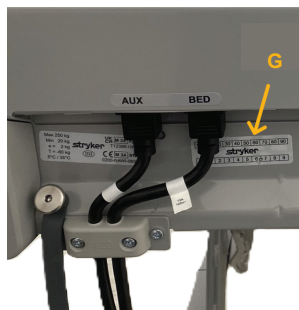

Figure 34 – Calibration counter label
4. Remove the current scale calibration counter label (Figure 34).
6. Affix the punched scale calibration counter label to the product (Figure 34).